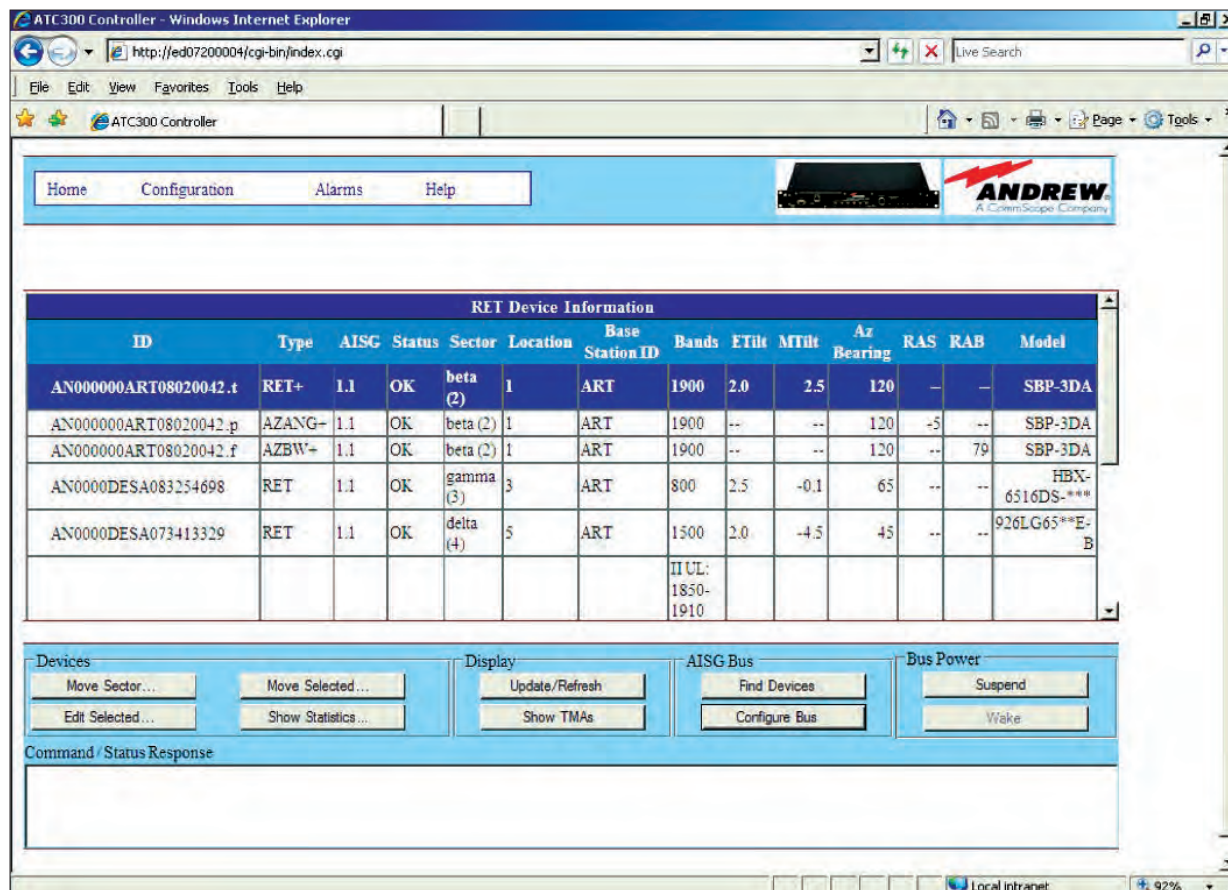

Figure 7-7. Controller Access Using DHCP Over a Network.
6. The controller’s web interface returns to the main interface window (Figure 7-7).